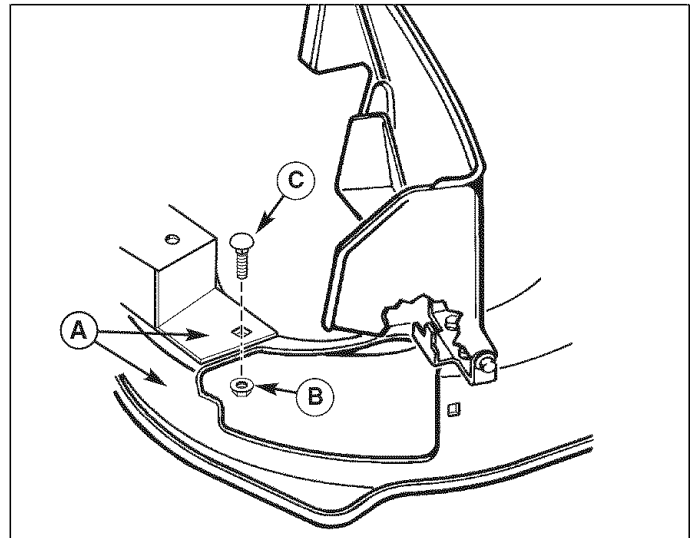

Figure 2. Remove Carriage Bolt
1. Remove and discard carriage bolt (C, Figure 2) and locknut (B) from bracket and mower deck housing (A).